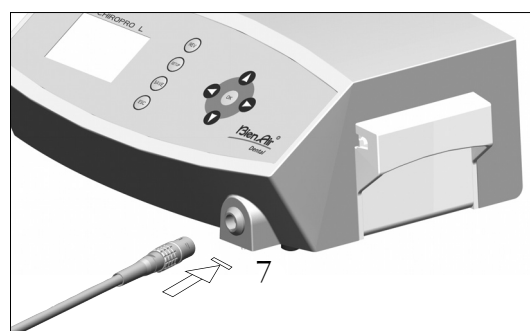

fig. 3
E. Connect the micromotor cable to the motor output, guiding the connector and plug by means of the index pin on the connector **fig. 3**.